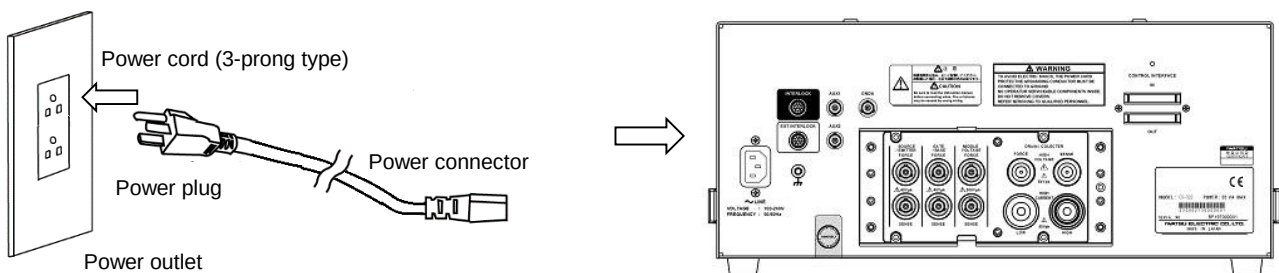

Figure 3.2: Power cord connection (Test Fixture)
- ① Insert the power connector of the supplied power cord into the AC LINE INPUT terminal for connecting the power cord on the rear panel of the Test Fixture (see Fig. 3.2).
- ② Connect the power plug of the power cord to the power outlet.